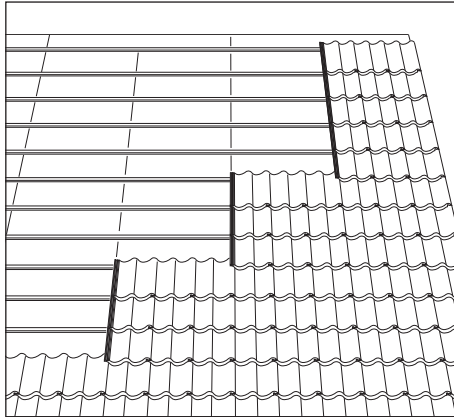

Fig. 9 – Completion of tiling
- 2 Work from right to left (Fig. 9). Depending on fixing specifications, you may leave out some tiles towards left-hand verge and make use of tile battens as a ladder enabling upper part of roof to be reached for fixing ridges.